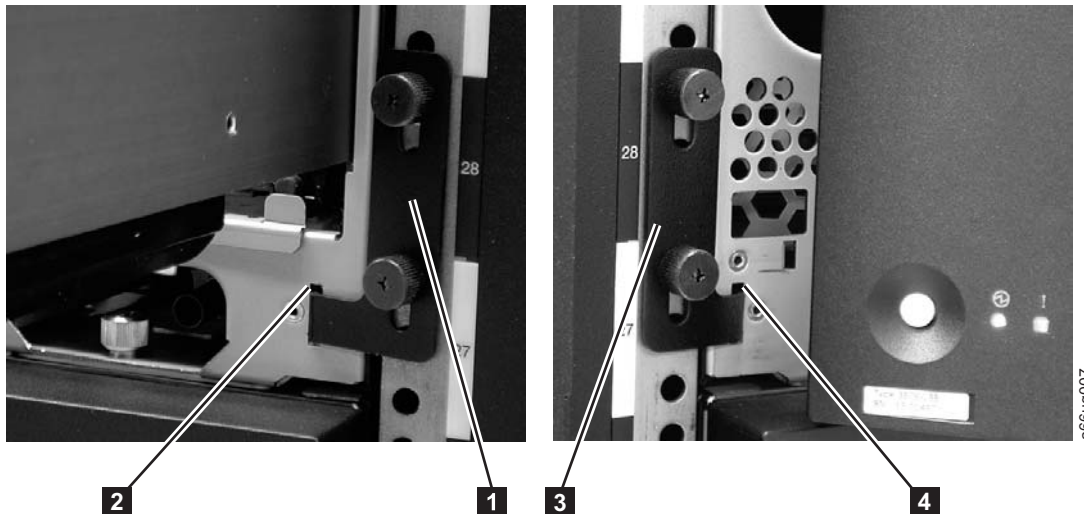

Figure 3-24. Installing the rack ears on a Control Module
1. Install the right rack ear (**2** in Figure 3-24).
- a. At the bottom right of the I/O Station position on each library module, there is a slot (**2** in Figure 3-24). Insert the right rack ear (**1** in Figure 3-24 and **7** in Figure 3-11 on page 3-12) into the slot.
2. Install the left rack ear (**3** in Figure 3-24 and **6** in Figure 3-11 on page 3-12).
- b. Grasp the hinged side of the door and, while pulling on the door, push to the right to expose the slot (**4** in Figure 3-24) for the left rack ear .
- c. Insert the left rack ear (**3** in Figure 3-24) into the slot.